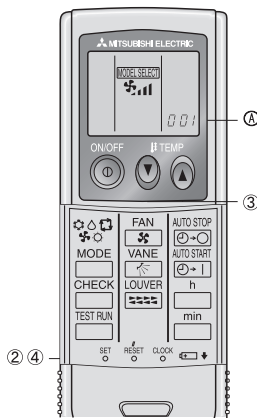

Fig. 6-3
1) Setting (Fig. 6-3)
① Insert batteries.
② Press the SET button with something sharp at the end.